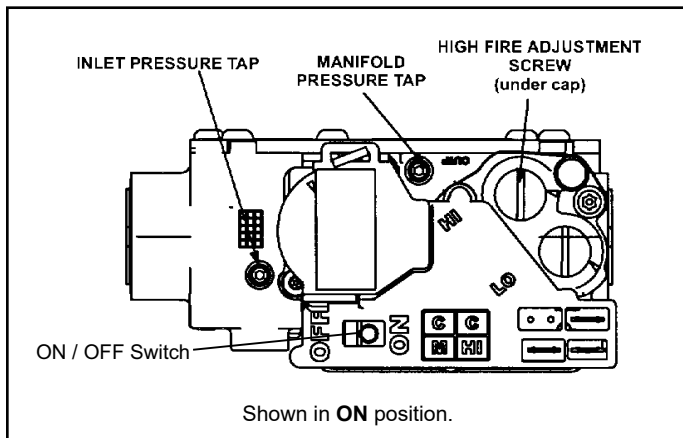
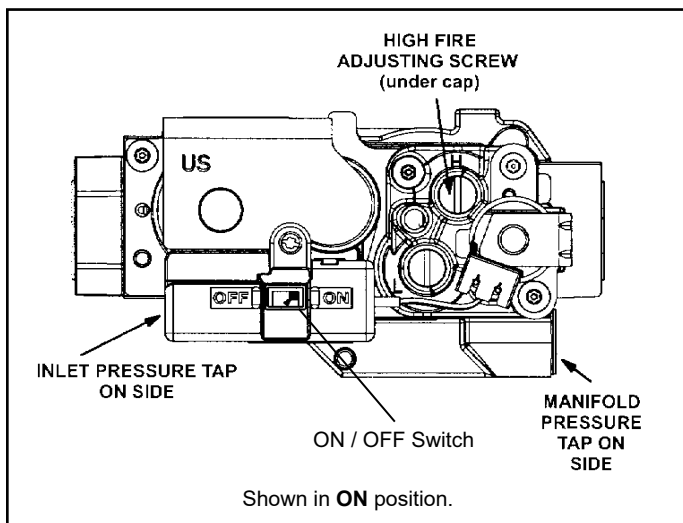

Figure 31. White Rodgers Gas Valve
Figure 32. Honeywell Gas Valve
See Figure 31 and Figure 32
6. Move gas valve switch to OFF position. Do not force. See Figure 31 and Figure 32.
7. Wait five (5) minutes to clear out any gas. If you then smell gas, **STOP!** Immediately call your gas supplier from a neighbor's phone. Follow the gas supplier's instructions. If you do not smell gas go to next step.
8. Move gas valve switch to ON position. Do not force. See Figure 31 and Figure 32.
4. Move gas valve switch to OFF position. Do not force. See Figure 31 and Figure 32.
4. If necessary, make adjustments. Figure 31 and Figure 32 show the location of high fire adjustment screw.